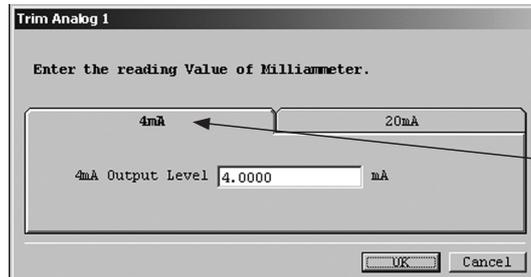

Fig.137
- ④ Select "4mA to 20mA" from the window shown in Fig. 137 and click the "OK" button to display the window shown in Fig. 161. Select whether to adjust 4mA or 20mA. This description assumes that 4mA will be adjusted first, followed by 20mA.
- ⑤ To adjust 20mA, click the 20mA side of the window shown in Fig. 137, and adjust until the connected ammeter indicates 20mA, in the same way as with the 4mA adjustment.